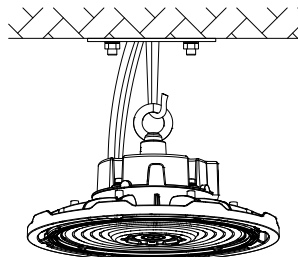
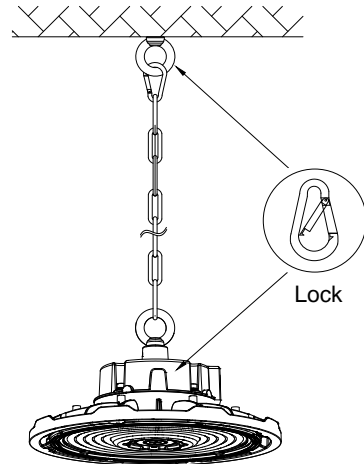

Figure 2
Figure 3
2. Hang the fixture on the ceiling hook (Figure 2) or chain (Figure 3), then install the safety cable.